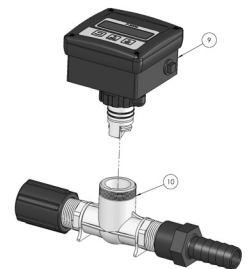

figure 1
3. Screw 1" NPT coupling (item 3) onto the other end of the flow meter. Tighten securely by hand or wrench, being very careful not to over-tighten.
4. Remove discharge nut, spout and o-ring (items 6, 7, & 8) from pump discharge. Discard the discharge nut and spout (or save for later use if no longer using the pump with a flow meter). Save the o-ring for use in the next step.
5. For SF models, install the o-ring into the o-ring groove of the Flowmeter Adapter (item 5). For all models, place the flow meter adapter (item 5) into the discharge nut (item 4) supplied with the flow meter kit. Threads of the adapter will protrude through the front of the discharge nut. For PF models, place the o-ring (item 6) inside the discharge nut (item 4). Press down on the o-ring to ensure it is seated in the nut.
7. Remove display housing (item 9) from molded in-line body by loosening the nut. See figure 1
8. Grasping the molded in-line body (item 10), screw the flow meter assembly onto the 1" NPT discharge adapter on the pump tube until tight.
10. Using a wrench, loosen the discharge nut (item 4) on the discharge of the pump tube. Position the flow meter assembly so the display is in the upright position and retighten the discharge nut (while holding the flow meter assembly).